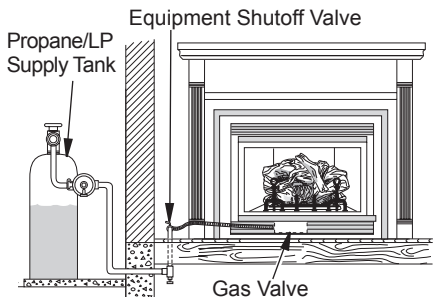
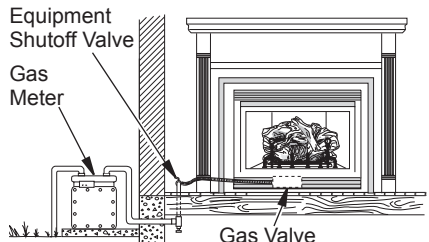

Figure 35 - Checking Gas Joints for Propane/LP Gas Fireplace
Figure 36 - Checking Gas Joints for Natural Gas Fireplace
3. Check all joints from propane/LP supply tank or gas meter to equipment shutoff valve (see Figure 35, for propane/LP or Figure 36, for natural gas). Apply noncorrosive leak detection fluid to all joints. Bubbles forming show a leak. Correct all leaks at once.
4. Check all joints from equipment shutoff valve to gas valve (see Figure 35 or Figure 36, page 23). Apply noncorrosive leak detection fluid to all joints. Bubbles forming show a leak. Correct all leaks at once.